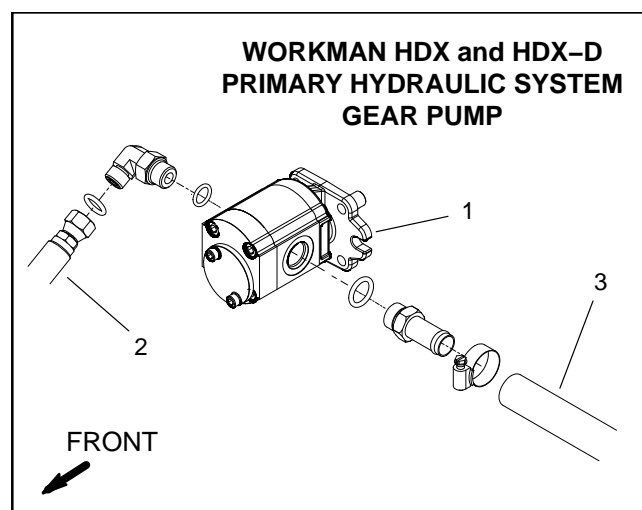

Figure 17
2. With the engine off, clean hose fitting and disconnect the pressure hose from the gear pump (Fig. 17). Install tester with pressure gauges and flow meter in series between the gear pump and the disconnected hose. **Make sure the tester flow control valve is fully open.**